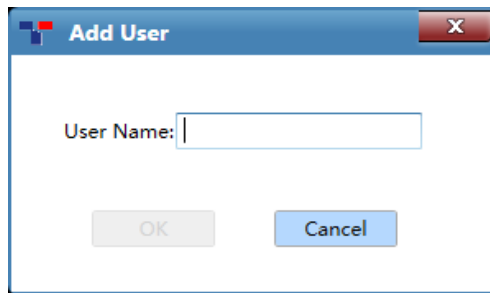

Figure D-2.1b Quick start bar - Add User
- **Register New User Account:** user can click < **Switch User** > and select **Add User** option in the drop-down menu of **User Name** input box, the application software will automatically pop up the add user dialog box, as shown in figure D-2.1b. Please enter a new user account name in the **User Name** input box and click < **OK** > to register a new user account.